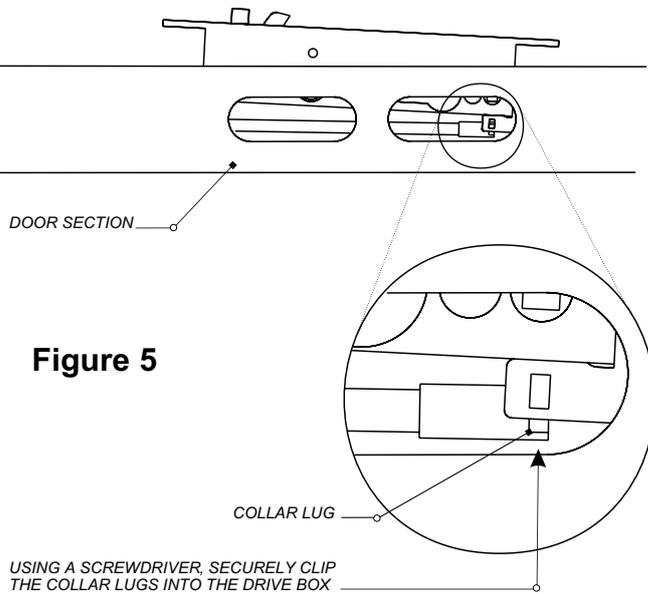

Figure 5
- 2 Carefully guide the whole assembly into the section, then using a screwdriver, clip the **collar lugs** into the **drive box**. (Figure 5 over page)